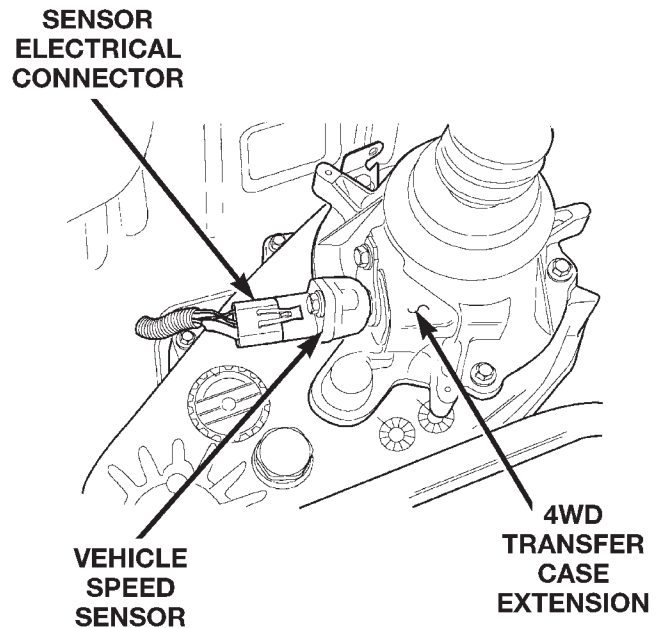

Fig. 25 Vehicle Speed Sensor—Typical
- (22) Inspect for pinched or leaking fuel tubes. Inspect for pinched, cracked or leaking fuel hoses.
- (23) Inspect for exhaust system restrictions such as pinched exhaust pipes, collapsed muffler or plugged catalytic convertor.
- (24) If equipped with automatic transmission, verify that electrical harness is firmly connected to park/neutral switch. Refer to Automatic Transmission section of Group 21.
- (25) Verify that electrical harness connector is firmly connected to the vehicle speed sensor (Fig. 25).
- (26) Verify that fuel pump/gauge sender unit wire connector is firmly connected to harness connector.